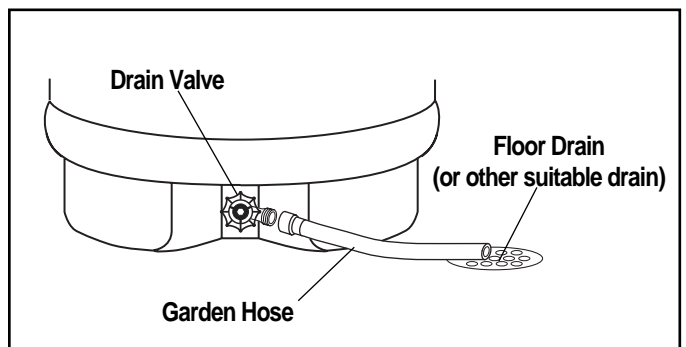

Figure 15 — Draining the Tank
In order to drain water heater, turn off the power supply, then turn off cold water supply. Next, it is necessary to open a hot water faucet or lift the handle on the relief valve to admit air to the tank, and KEEP OPEN. Attach a garden hose to the drain valve on the water heater, and open the valve. Direct the stream of water to a drain where it will do no damage. (See Figure 15).
- D. A water heater’s tank can act as a settling basin for solids (sand, silt, dirt and mineral scale) suspended in the water. It is, therefore, not uncommon for these deposits to accumulate in the bottom of the tank. It is suggested that a few quarts of water be drained from the water heater’s tank ONCE EVERY MONTH to clean the tank of these deposits. (See Figure 15)
- C. Fasten a length of garden hose to the drain valve. Place the other end of the hose at a floor drain, or other suitable location. (See Figure 15)
- C. Fasten a length of garden hose to the drain valve. Place the other end of the hose at a floor drain, or other suitable location. (See Fig. 15.)